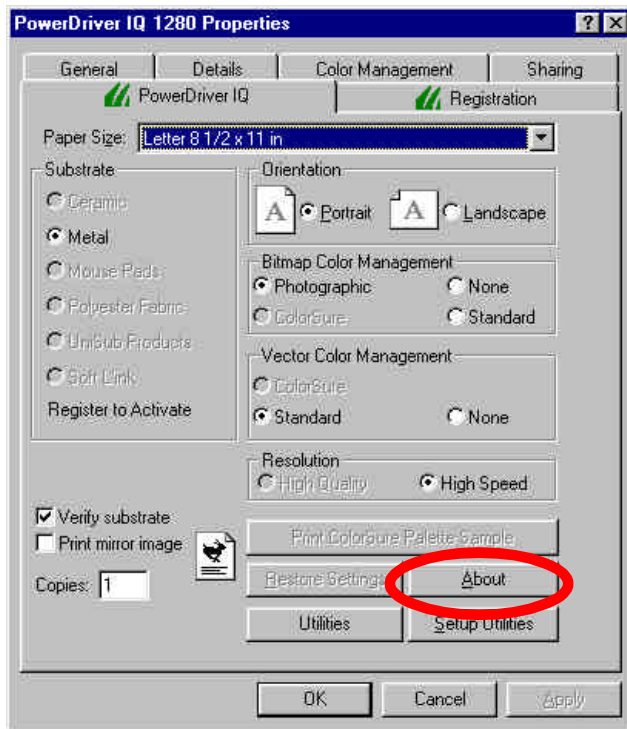

Fig. 1
- Select the PowerDriver PRO tab; see Fig 1.